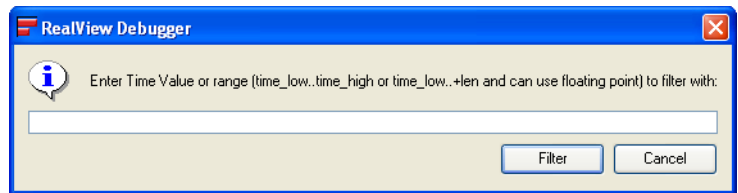

Figure 9-13 Filtering on a time match
1. Select **Filter** → **Filter on Timestamp...** from the Analysis window menu to open the Prompt dialog box. Figure 9-13 shows an example: